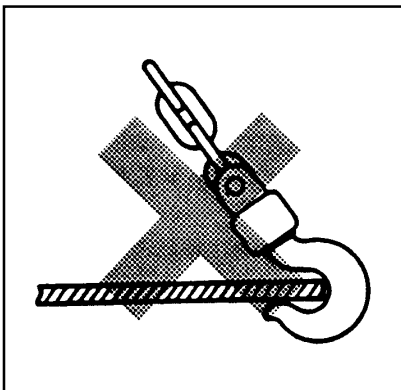
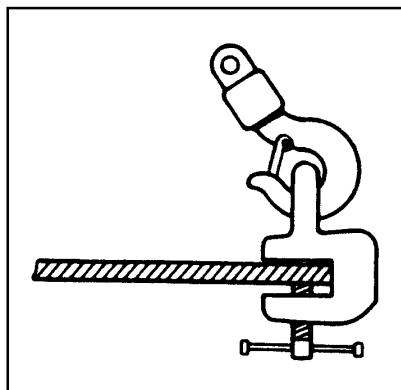

FIGURE 5
FIGURE 6
- When hooking, the load must be applied squarely to the centre of the hook and the hook must not come loose during operation. Never use the hook directly on a load (See Figure 5). Lift loads only with applicable clamps or hooks (See Figure 6).